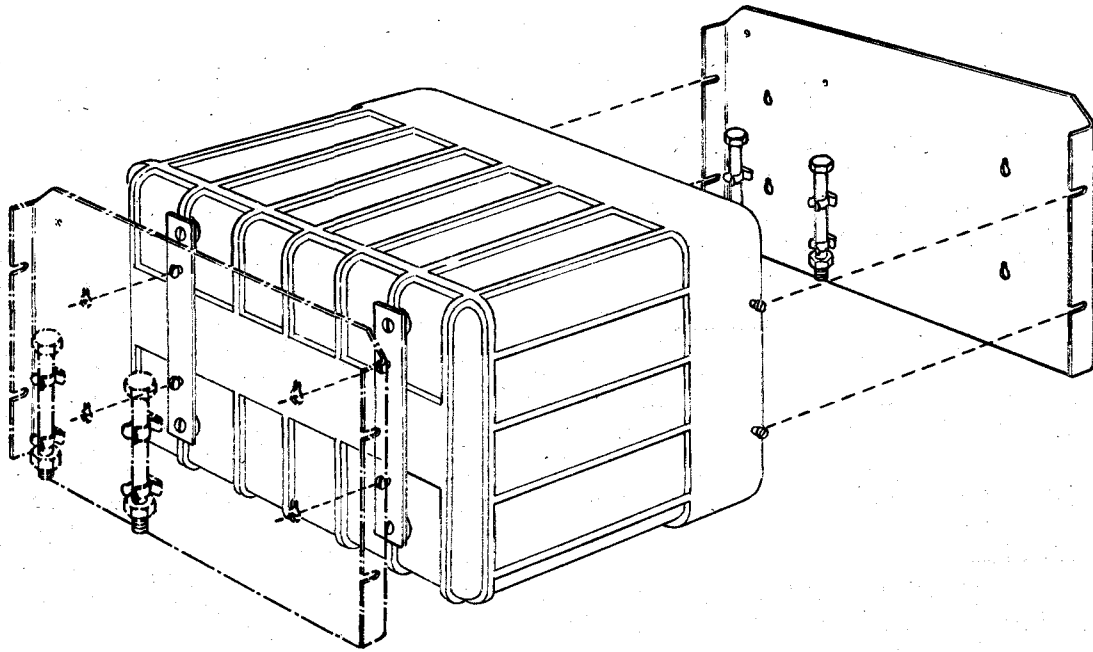
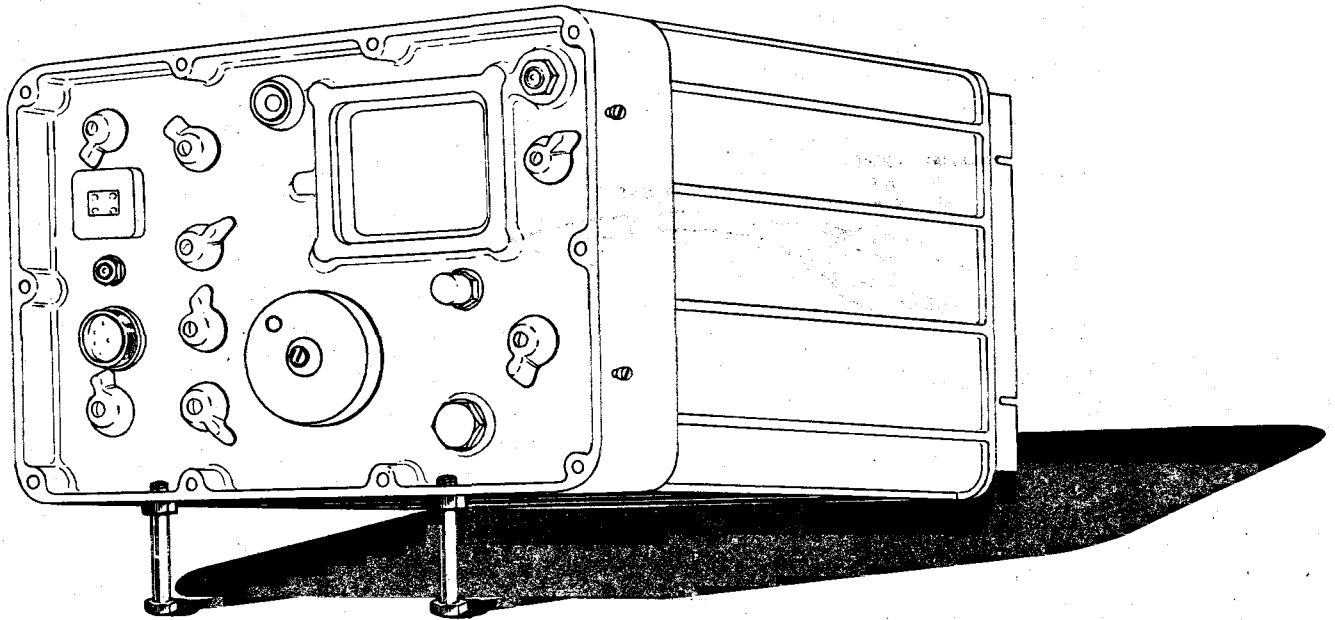

FIG.8 - REMOVING A PANEL COVER
FIG.9 - ELEVATING THE RECEIVER PANEL
- (1) Having ascertained what source of power supply is to be used, ensure that the correct power supply unit is installed for either AC or DC working.
- (2) When DC supplies are to be used and the DC power supply unit is installed, two 12-volt 75 Ah batteries are required. Install these batteries near the DC supply unit in a position which can be conveniently reached by the DC power supply connector.
- (3) Remove the metal panel cover from the front panel of the receiver unit, as shown in fig.8. Attach it to the back of the receiver by means of the slotted holes and four captive screws held on strips secured to the receiver. The two  $2\frac{1}{2}$ -inch elevating screws are now on the outside. Tighten the four captive screws to secure the cover to the back of the receiver.
- (4) Remove the similar cover from the panel of the supply unit which is to be used, and attach it to the back of the supply unit. The spares case, which should remain attached to the supply unit cover, is now on the outside and easily accessible.
- (5) Before setting up the reception set make a general mechanical inspection and ensure that the units are in a sound condition. If the receiver and power supply unit are to be installed in set carriers or mounted in any way, check that they are secure in their mountings.
- (6) If the receiver is to be operated on a table or level surface, and no suitable set carrier is available, the front panel should be elevated to facilitate manipulation of the controls. Remove the two  $2\frac{1}{2}$ -inch screws from the spring clips on the cover attached to the rear of the receiver case. The stowed position of these two screws is shown in fig.8. Referring to fig.9, insert these screws into the tapped holes on the underside of the front panel flange. Screw them in to the thickness of the flange and lock them with the nuts provided.
- (7) Observe the colour of the indicator in the desiccator in both the receiver unit and the power supply unit. If it is bright blue in colour then the interior of the unit is dry. But if it has turned pink it is evident that the unit is damp. When the desiccator appears pink the unit should be sent to workshops for drying out and re-sealing if necessary, and the fitting of a replacement desiccator of the correct type under dry conditions.